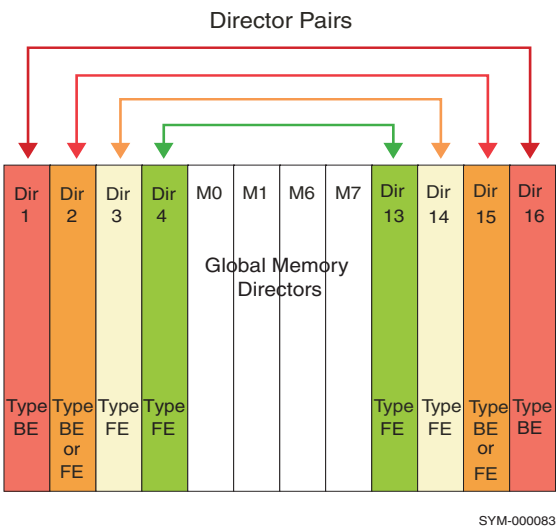

Figure 2-10 Symmetrix DMX1000 card cage configurations (front)
The DMX1000 system has a 12-slot midplane. Four slots in the center are reserved for global memory directors and the remaining eight slots are reserved for channel directors and disk directors (four to the left and four to the right of memory). Figure 2-10 shows the card cage layout for the global memory director boards, the Front-End (FE) and Back-End (BE) designations for the Fibre Channel directors, and the FE designations for the ESCON directors, FICON directors, iSCSI, or GigE Remote directors.